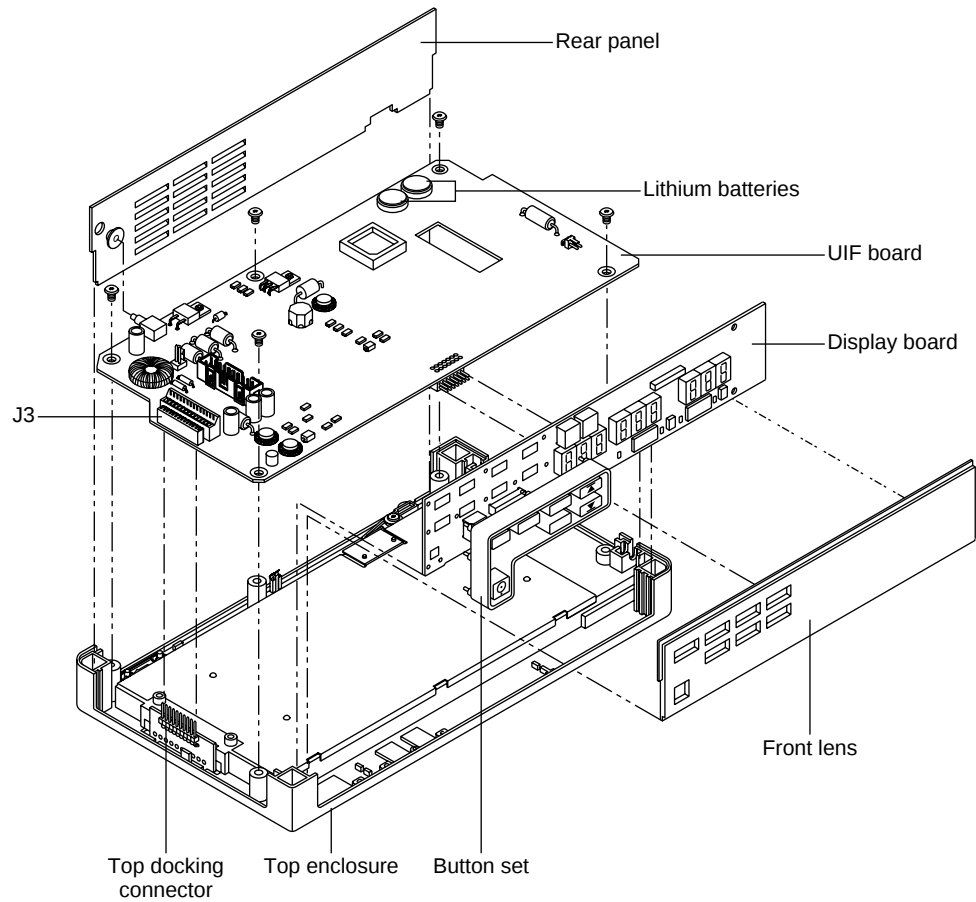

Figure 6-5: Removing UIF and Display PCBs
2. Remove the five screws securing the board to the chassis, as shown in Figure 6-5.
5. Locate the two 3-volt lithium batteries on the UIF board (Figure 6-5).